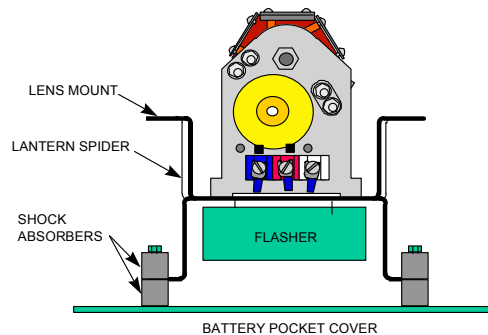

Figure 2-12
- g. Install another set of rubber shock absorbers over each pair of studs, as shown in Figure 2-12.